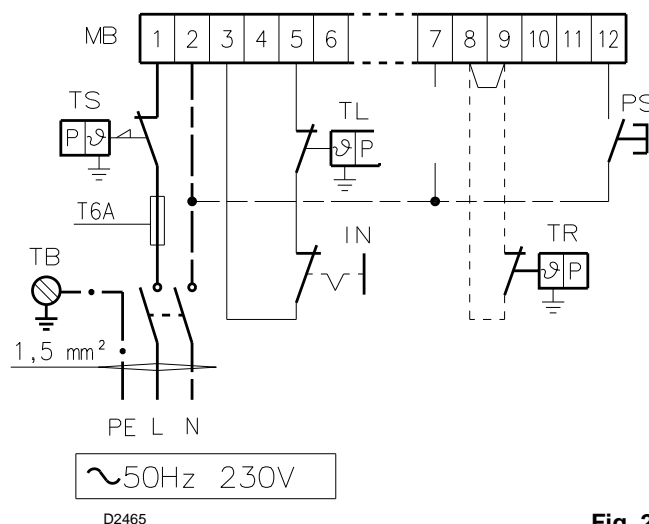

Fig. 22
- LAYOUT (Fig. 22)
Key to wiring layout (Fig. 22):